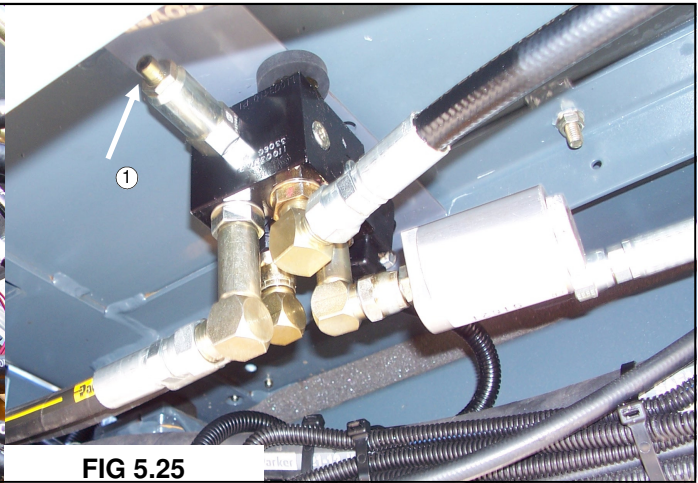

FIG 5.25
To check the psi, install a 3000 psi pressure gauge on the inlet of the dump valve (fig. 5.25, item 1). If any further adjustment is required, contact Hagie Customer Support Department.